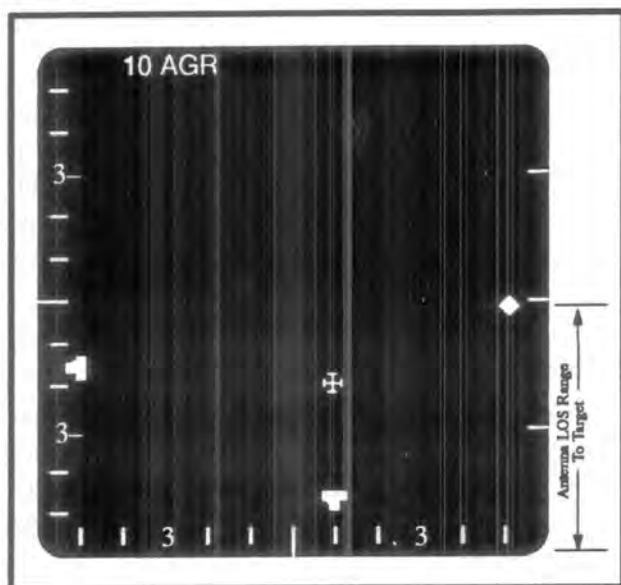

Figure 7-30 Typical Air-to-Ground Ranging (AGR) Display
7.236 The radar display for AGR is shown in Figure 7-30. The antenna azimuth and elevation are indicated relative to the aircraft body axes; there is no video, target symbology, or antenna sweep. The iron cross symbol, which is simply the intersection of a horizontal and a vertical line through the azimuth and elevation markers respectively, follows the NAS commanded antenna position. The diamond on the right side of the display appears at the antenna line-of-sight range to ground when AGR lock-on is present. If AGR is not locked-on, the diamond changes to a square.